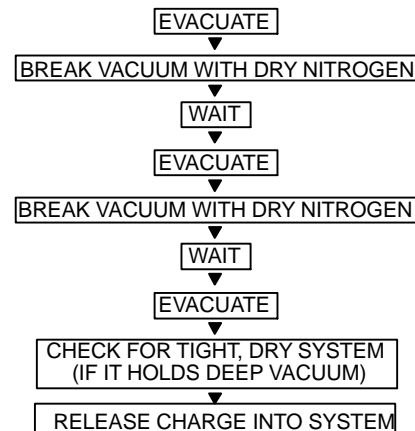

Fig. 12 – Triple Evacuation Method
The triple evacuation method should be used. Refer to Fig. 12 and proceed as follows:
5. Repeat this procedure as indicated in Fig. 12. System will then be free of any contaminants and water vapor.